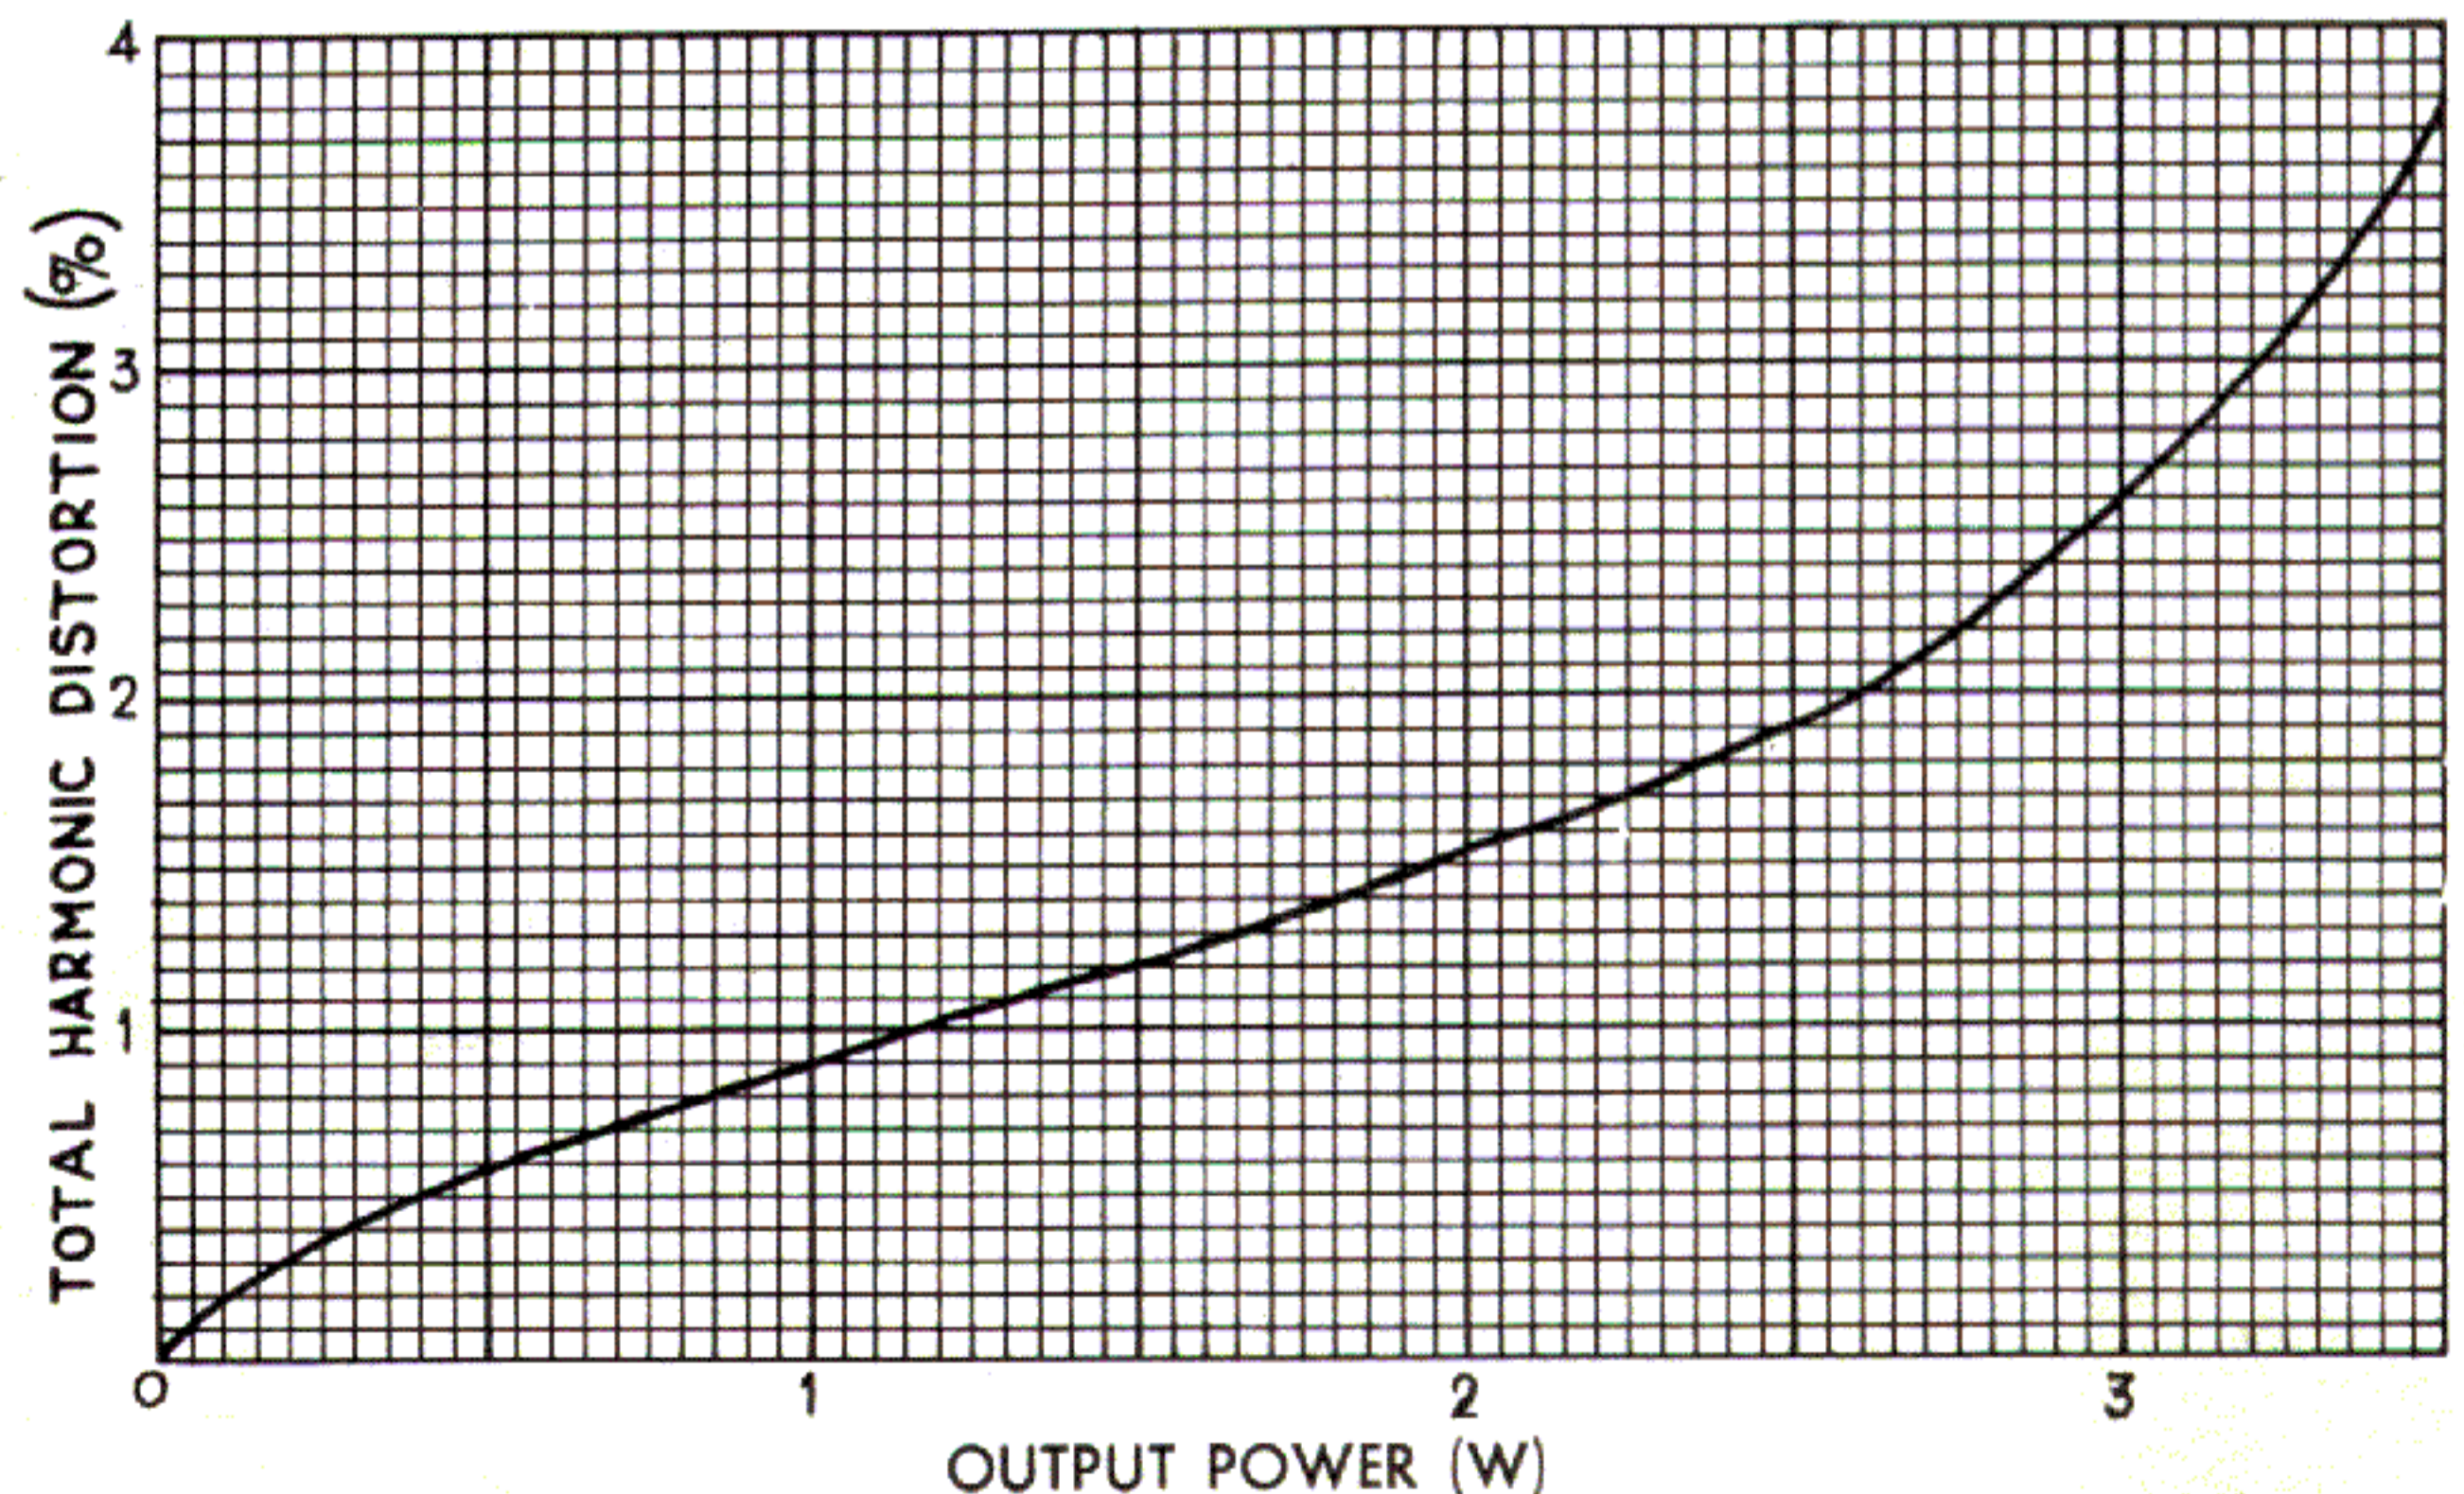
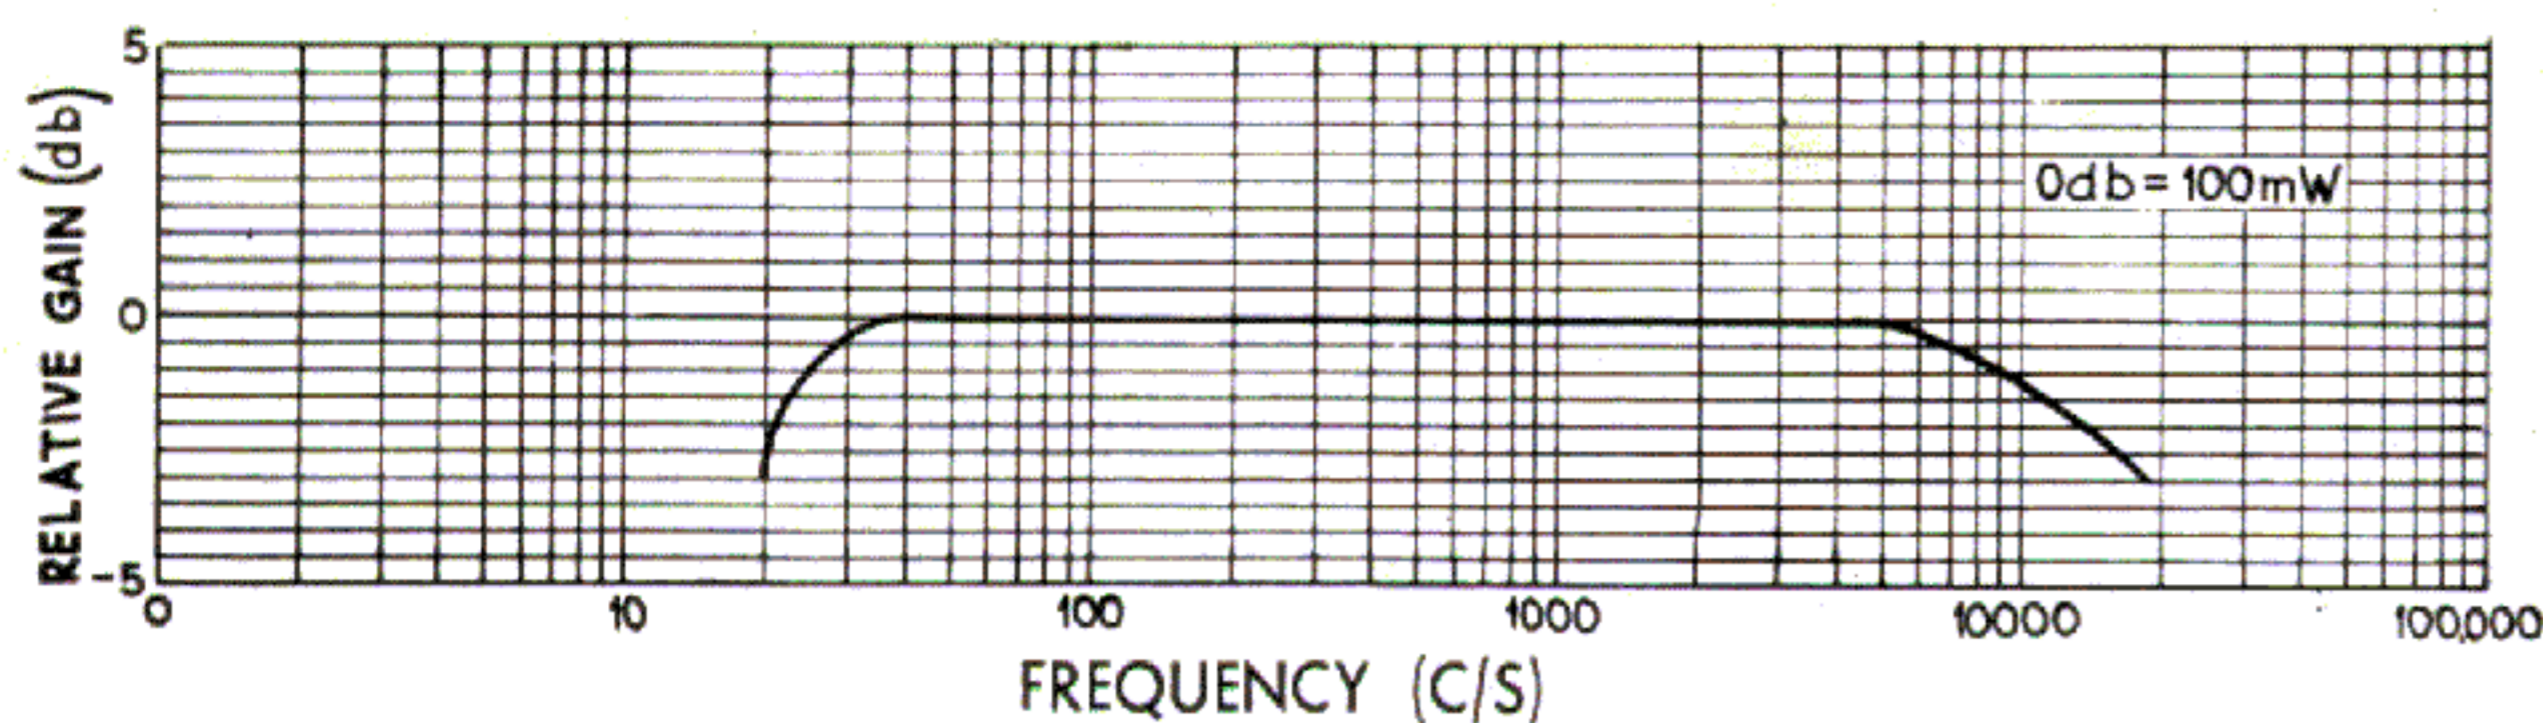
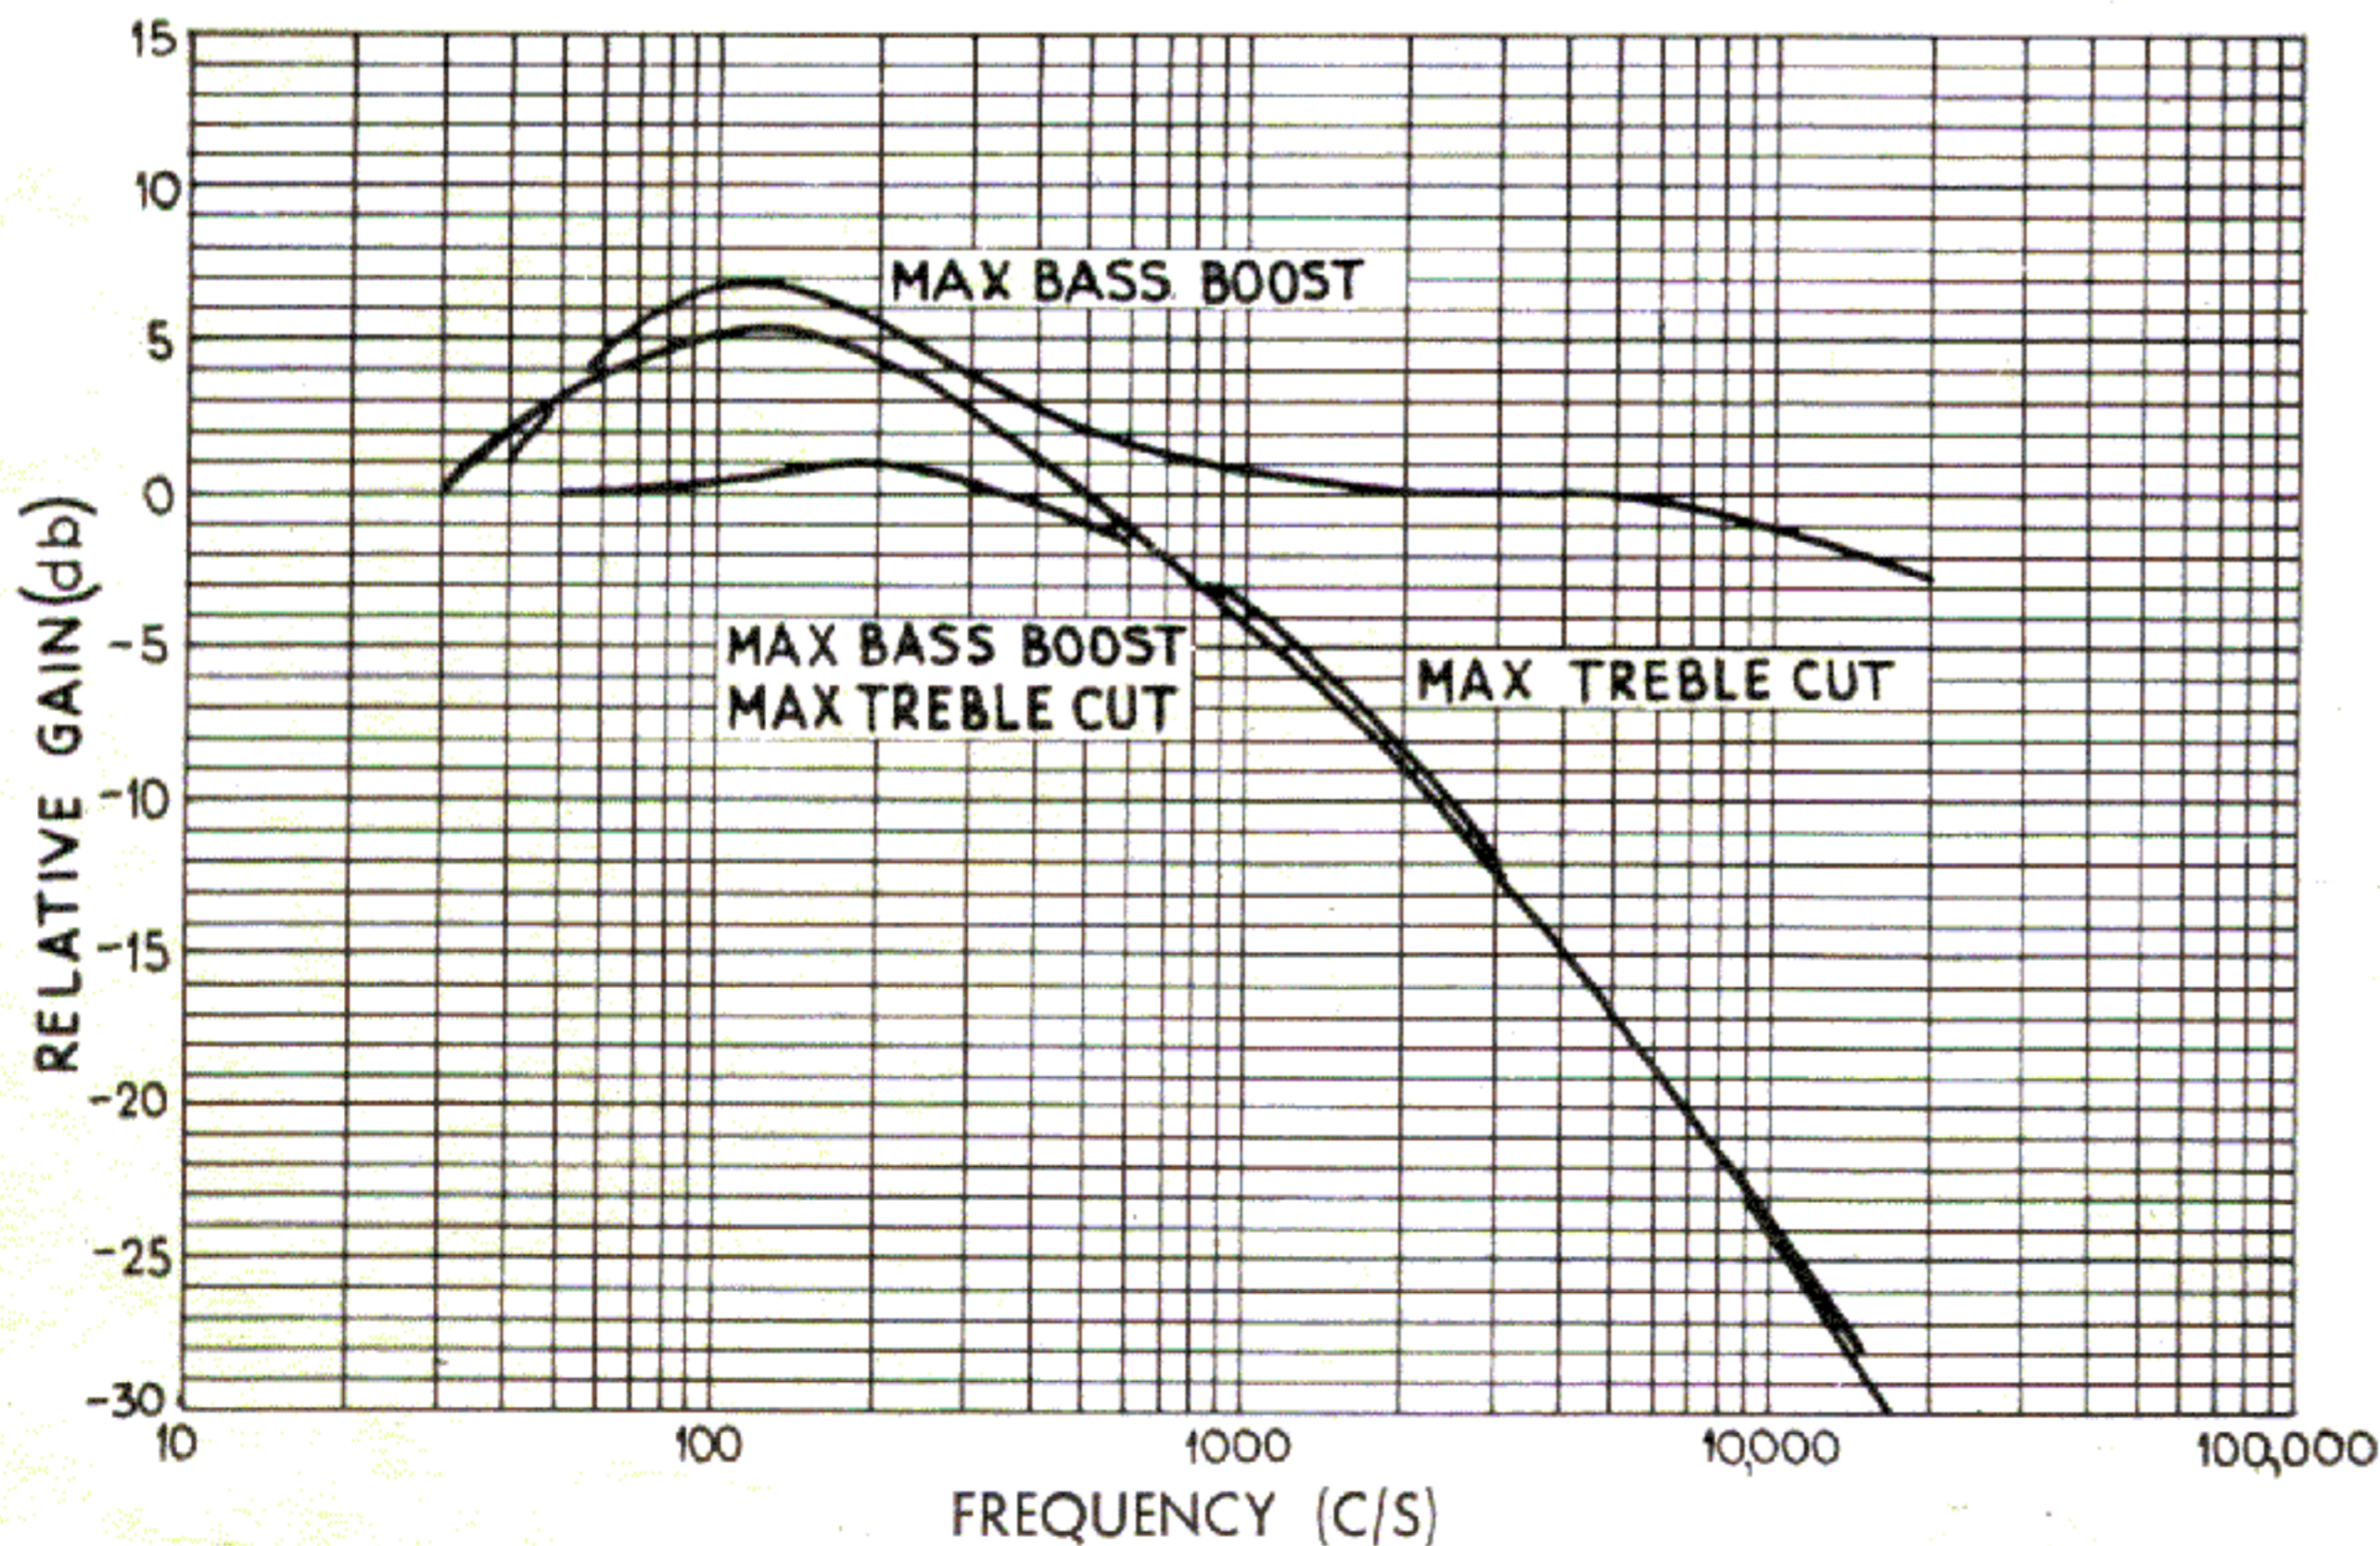

Fig. 2
Fig. 3
Fig. 4
1.5% total harmonic distortion and 3.2W before the onset of clipping as shown in figure 2. Figures 3 and 3A illustrate the frequency response of each channel at the 100mW and 2W output levels respectively. The range of the tone controls is illustrated in figure 4.